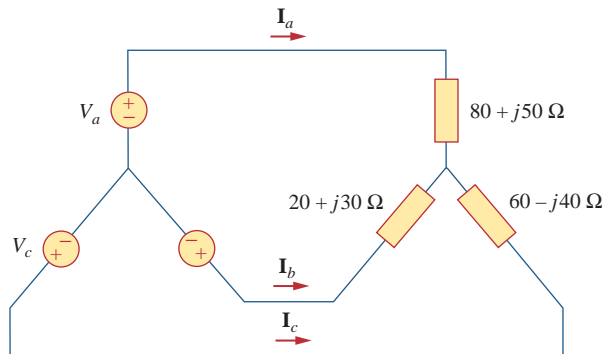

Figure 12.64
12.57 Determine the line currents for the three-phase circuit of Fig. 12.64. Let $\mathbf{V}_a = 110\angle 0^\circ$, $\mathbf{V}_b = 110\angle -120^\circ$, $\mathbf{V}_c = 110\angle 120^\circ$ V.